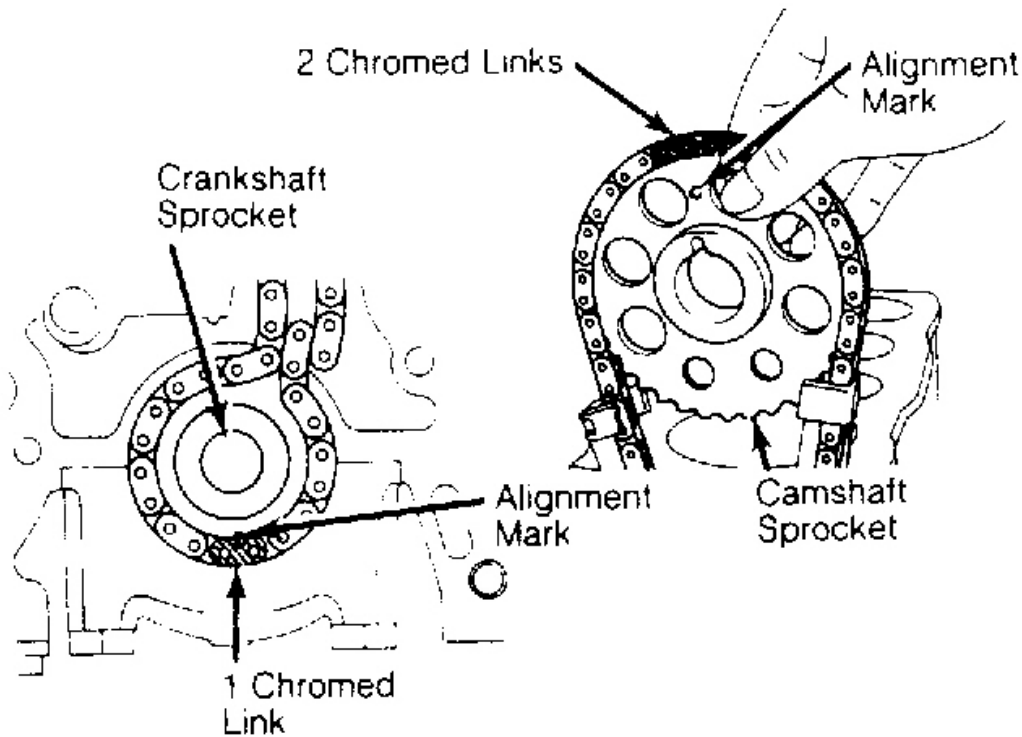

Fig. 3: Aligning Camshaft Sprocket & Timing Chain
2. Install cam sprocket in chain so that timing mark on sprocket is located between 2 chromed links. See **Fig. 3**. Slide oil pump drive spline over crankshaft key. Install cover assembly with new gasket over dowels and pump spline.